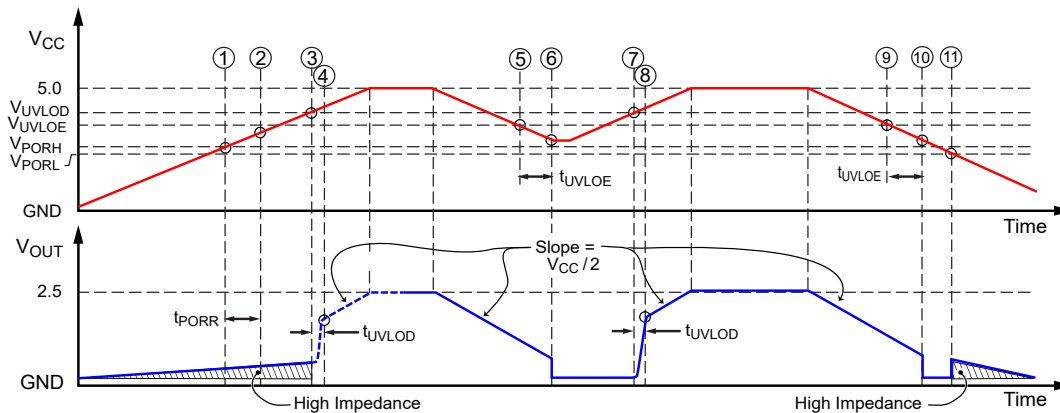
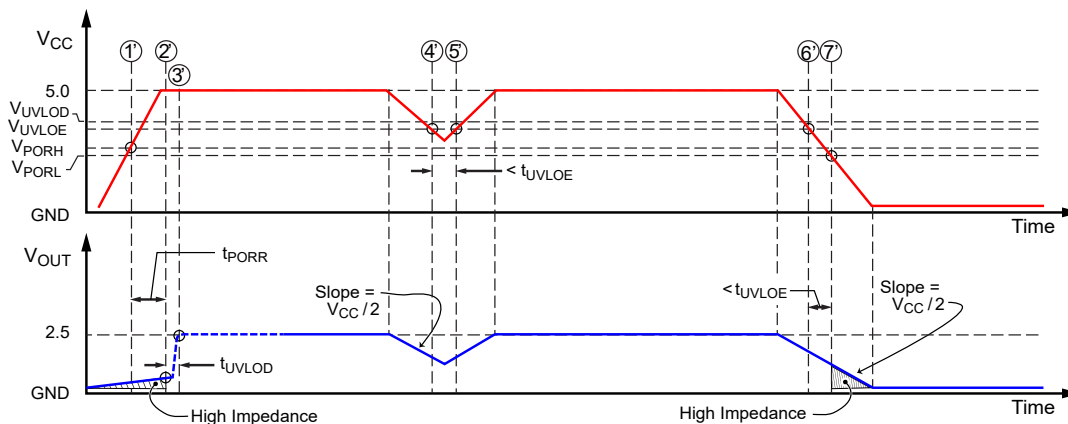

Figure 10: POR and UVLO Operation – Slow Rise Time Case – 5 V Mode
Figure 11: POR and UVLO Operation – Fast Rise Time Case – 5 V Mode
- Power-Up.** At power-up, as V_{CC} ramps up, the output is in a high-impedance state. When V_{CC} crosses V_{PORH} (location [1] in Figure 10 and [1'] in Figure 11), the POR Release counter starts counting for t_{PORR} . At this point, if V_{CC} exceeds V_{UVLOD} [2'], the output will go to $V_{CC}/2$ after t_{UVLOD} [3']. If V_{CC} does not exceed V_{UVLOD} [2], the output will stay in the high-impedance state until V_{CC} reaches V_{UVLOD} [3] and then will go to $V_{CC}/2$ after t_{UVLOD} [4].